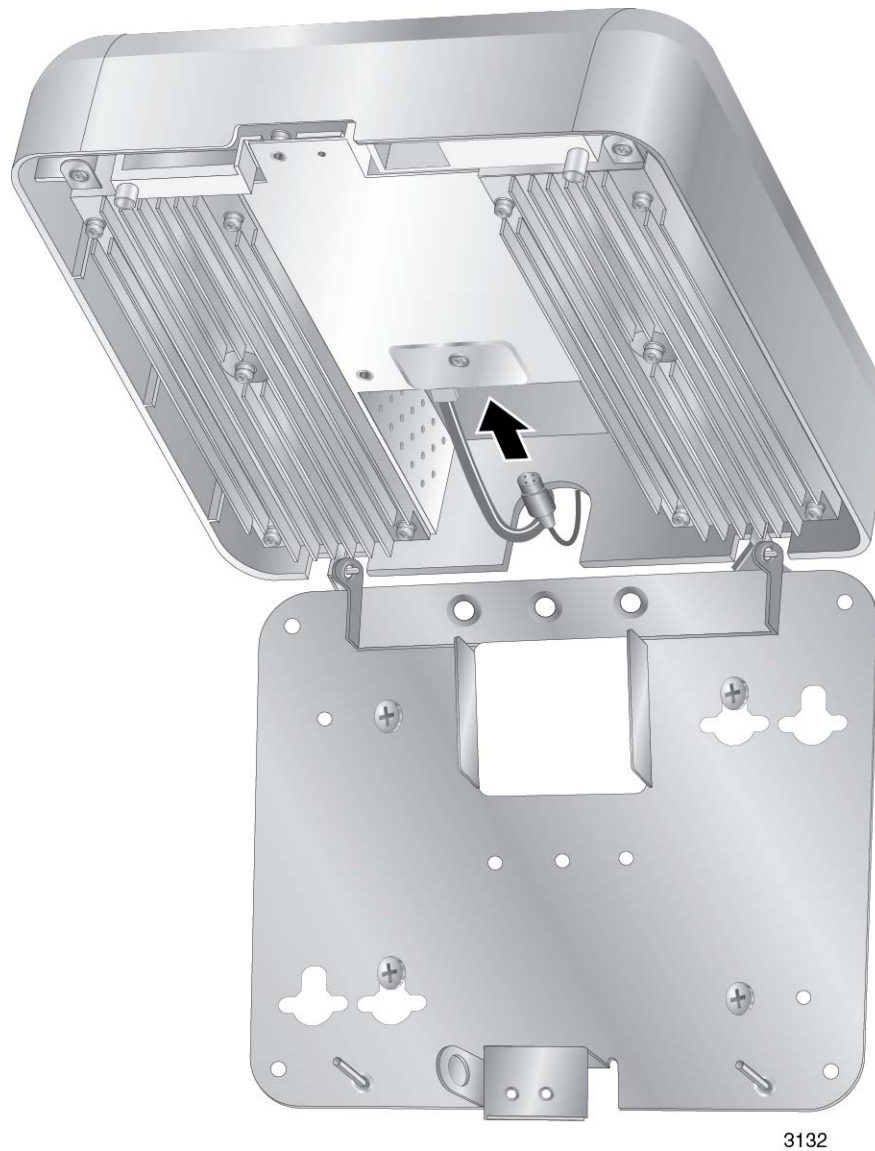

Figure 22. Connecting the DC Cable from the AT-TQ0091 Power Adapter
4. If the access point is to be powered with the AT-TQ0091 Power Adapter, route the DC cable from the adapter through the notch in the cover and connect it to the DC-IN port on the access point. Refer to Figure 22 on page 46.